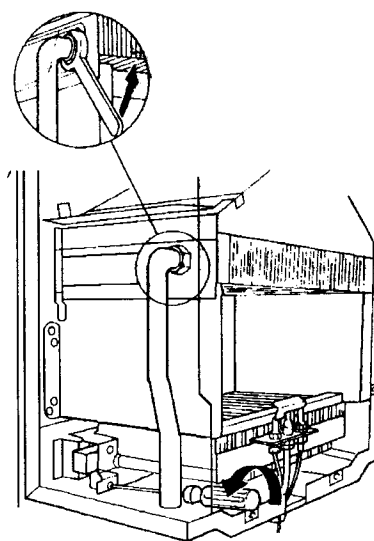

Fig. 29
Refer to fig. 29
- 8.7.5** Remove four burner retaining screws (see fig. 29)
Refer to Fig. 29 & 30